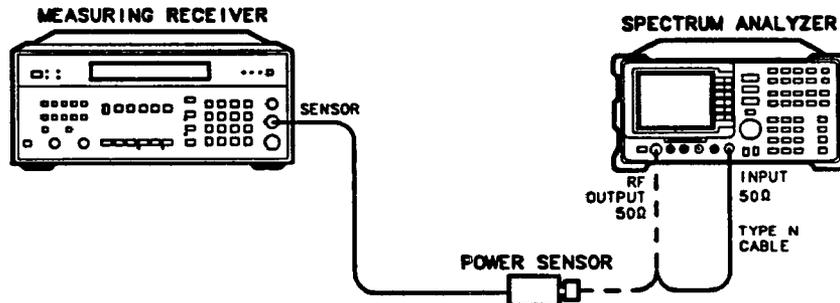

Figure 2-3. BITG Power Level Adjustment Setup
7. Disconnect the cable from the RF OUT 50 Ω connector, then connect the power sensor to the RF OUT 50 Ω connector. See Figure 2-3.